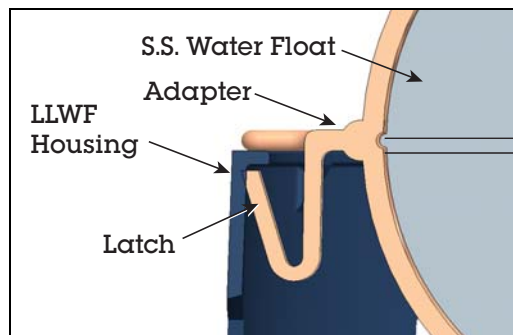

Figure 2. Correct Adapter Latch Position Under LLWF Housing Flange
5. Visually inspect the six latches on the adapter to ensure they are fully seated under the flange of the LLWF housing. Failure to do so could result in loss of low level water detection (see Figure 2).